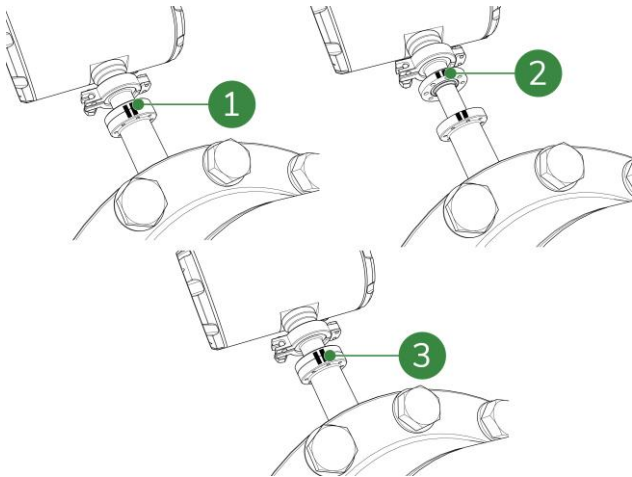

Figure 8-14: Sensor position markings
9. Place back the sensor in the exact same position (Figure 8-14, pos. 3).